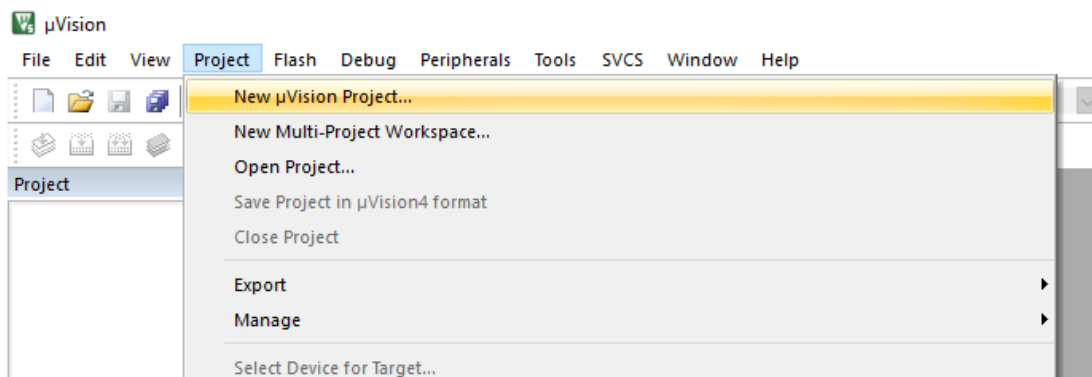

Figure 2: Create a new project.
2. Now open the Keil μ Vision5 software, and select *Project* \rightarrow *New μ Vision Project...* as shown in Figure 2.